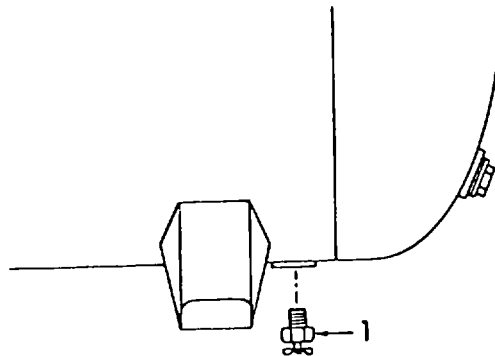

Figure 3-36. Drain Cock, Installation.
- (1) Inspect for stripped threads.
- (2) Inspect for signs of obvious damage.
e. Installation. Install the drain cock (1, Figure 3-36).